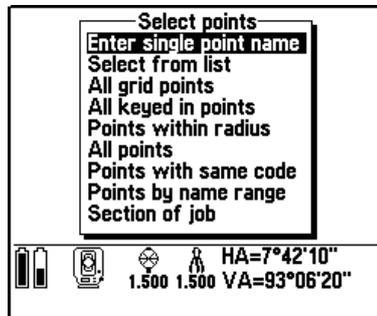

Figure 4.7 Screen showing selection methods
4. Press the **Add** softkey to transfer points in the Trimble Survey Controller software database to the *Stakeout/Points* list. The *Select points* screen appears, as shown in Figure 4.7.